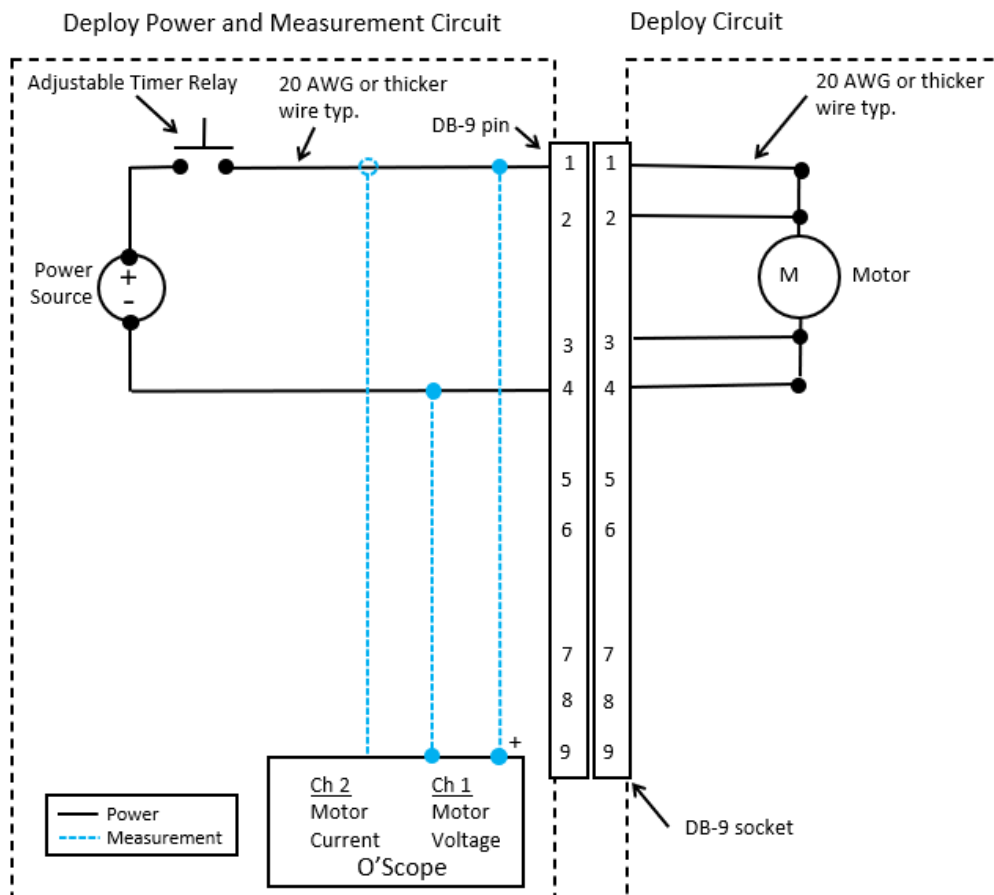

Figure 12-2: Deploy circuit
12.2.5	Connect the Lightband to the deploy power and measurement circuit per Figure 12-2. Do not apply power to the Lightband. Ensure the circuit polarity is as depicted.